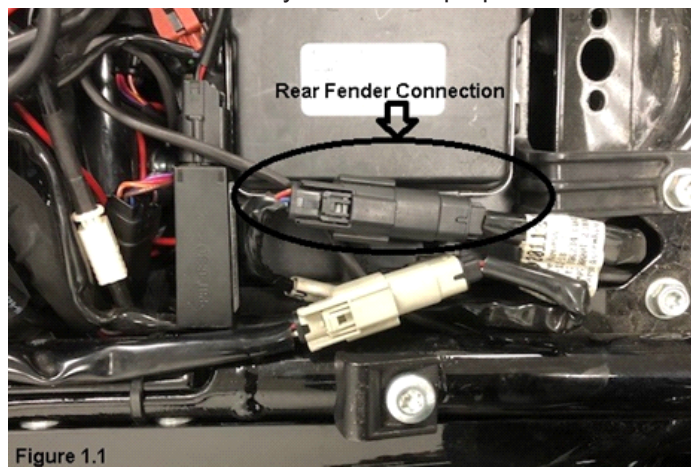

Figure 1.1
3. Locate the Rear Fender Harness connection under the seat (Figure 1.1).
9. Using the (2) supplied Zip-Ties secure the module into place, ensuring no wires will be pinched.